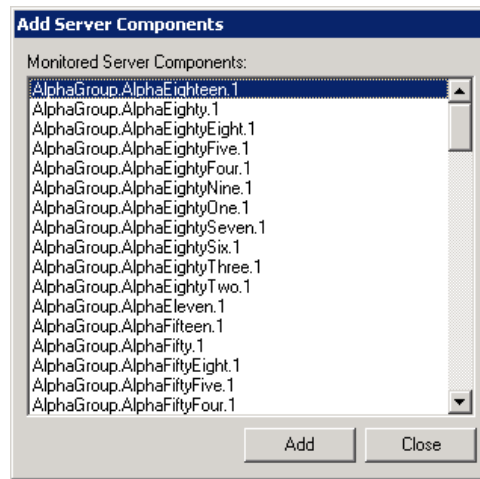

Figure 3-51 Add Server Components Dialog
3. The **Add Server Components Dialog** (Figure 3-51) will appear.